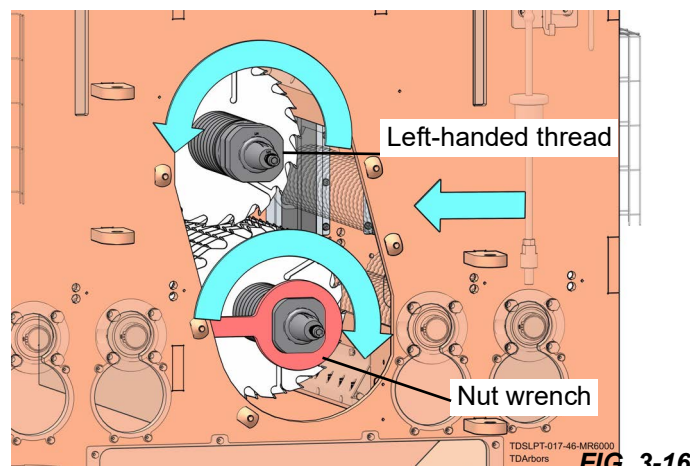

FIG. 3-16
- d. If the cutout is slanted upwards to the left, turn the tool counter-clockwise. See Fig. 3-16. Horizontal arrow indicates the direction of the material.
- f. If the cutout is slanted upwards to the left, turn the tool clockwise. See Fig. 3-16. Horizontal arrow indicates the direction of the material.
12. Reattach the arbor nut with the nut wrench (spanner) and arbor wrench (spanner) in the reverse of Fig 3-16 and Fig 3-16.